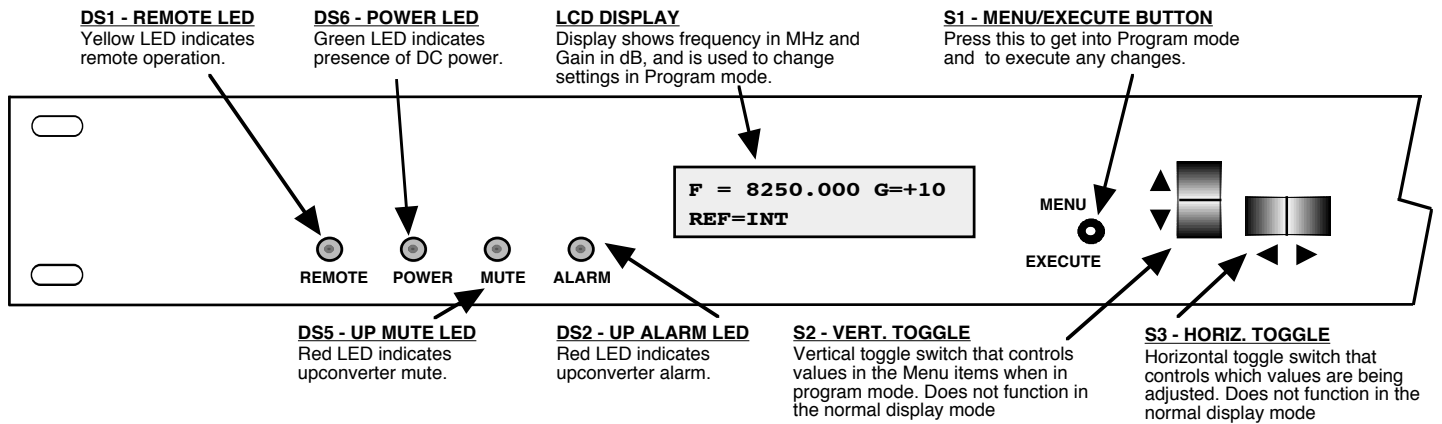

FIGURE 2.3 2015-8085 Front Panel Controls and Indicators
2.3 Front Panel Controls and Indicators - Figure 2.3 shows the front panel controls and indicators.
7. Be sure DS6 (green, DC Power) is on and DS2 (red, Alarm) is off (Figure 2.3).